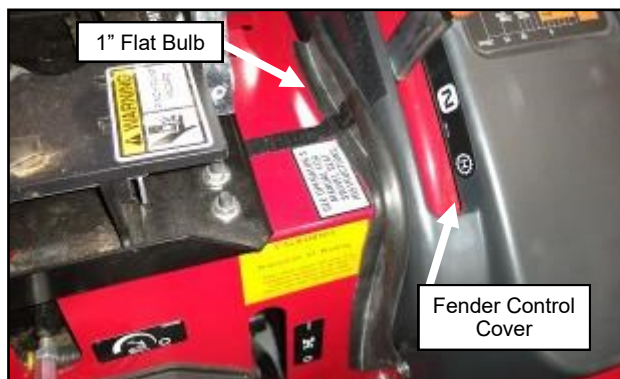

Fig. 24.1 (1" Flat Bulb Orientation)
24.1 Install the provided 1" flat bulb on the left side of vehicle by inserting the bulb's grip at the top of the vertical portion of the under seat panel and push the bulb down toward the floor. Once all the way down, continue working the grip onto the horizontal part of the under seat panel filling the void between the vehicle's left fender and under seat panel as shown in Figure 24.1. Remove the grey plastic fender control cover if necessary.